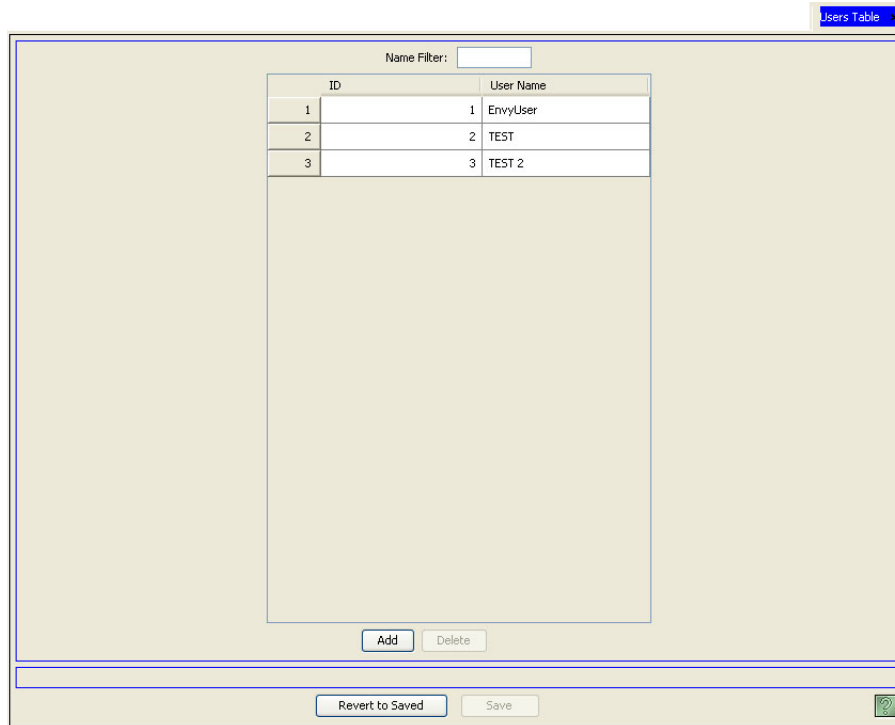

Figure 19-1. Users Table
- 2 From the Navigation area, select the ‘Views’ pane and then ‘Users’. The ‘Users’ table appears, as shown in Figure 19-1.